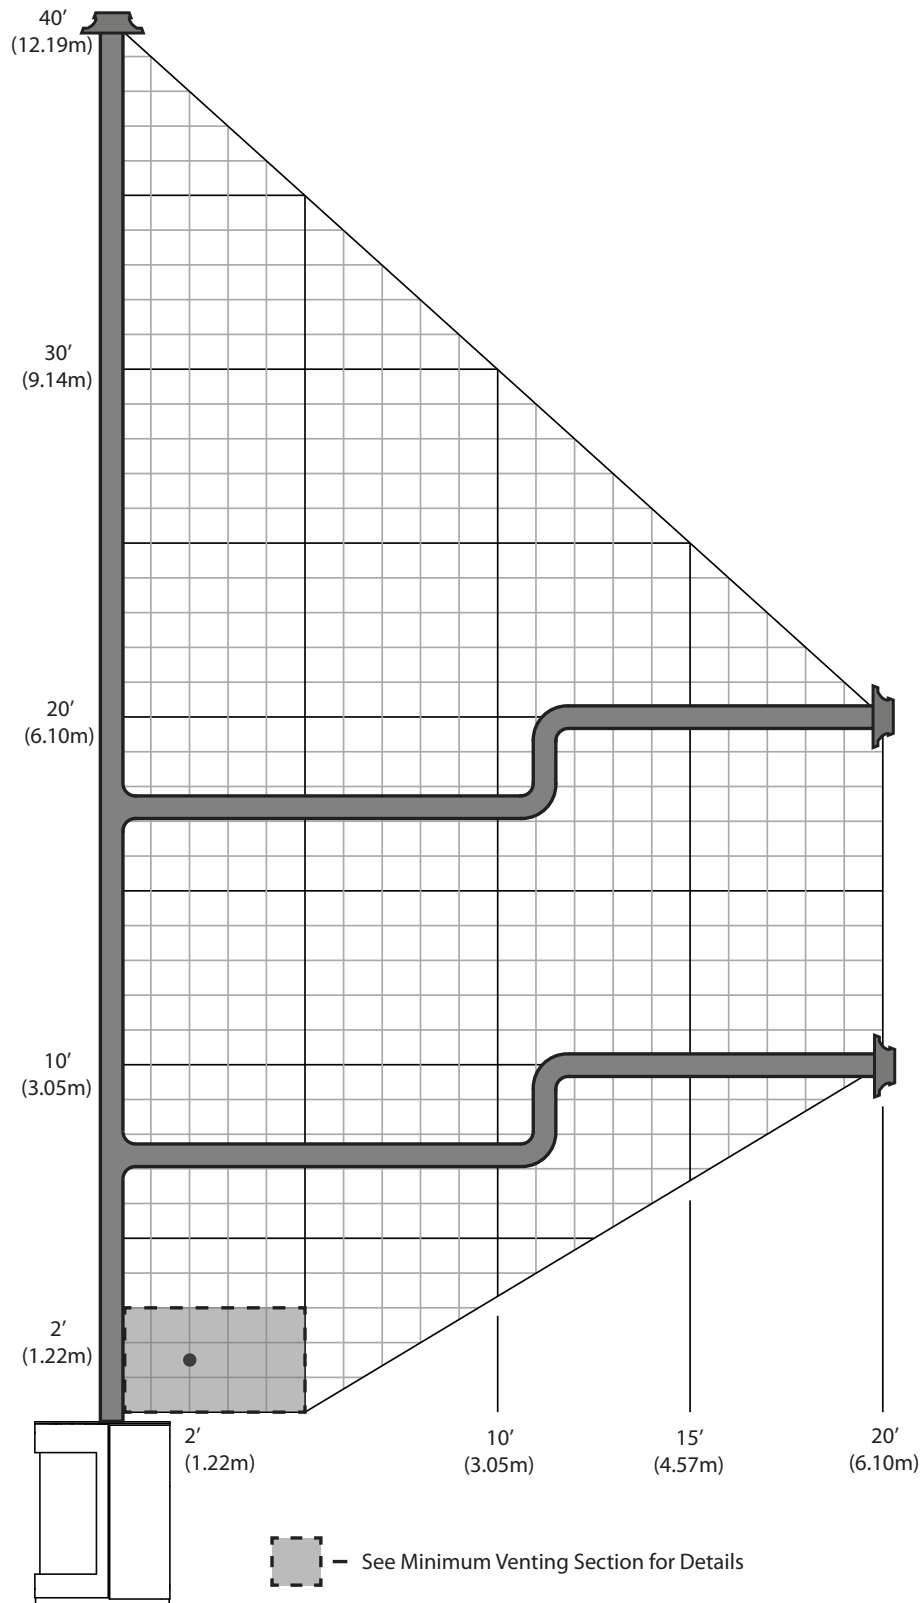

Figure 51: Top Vent Configuration Diagram - LP
The following charts show the range of venting options available for top vent configurations using either vertical or horizontal terminations in conjunction with 0 - 3 90° elbows in the vertical plane. Having the fewest number of elbows is ideal as they restrict air flow. The total length of horizontal vent pipe can not exceed 20ft (6.1m) and the total vertical length can not exceed 40ft (12.2m). Any combination of rise and run can be used as long as it lays within the shaded areas of the following charts. A total of three (3) 90° elbows or six (6) 45° elbows can be used as shown in Figure 50 & Figure 51. In addition to what is shown, if a 90° elbow is used in the horizontal plane, 3 ft (91.4cm) must be subtracted from the allowable horizontal run (for each 45° elbow, 1.5ft (45.7cm) must be subtracted).